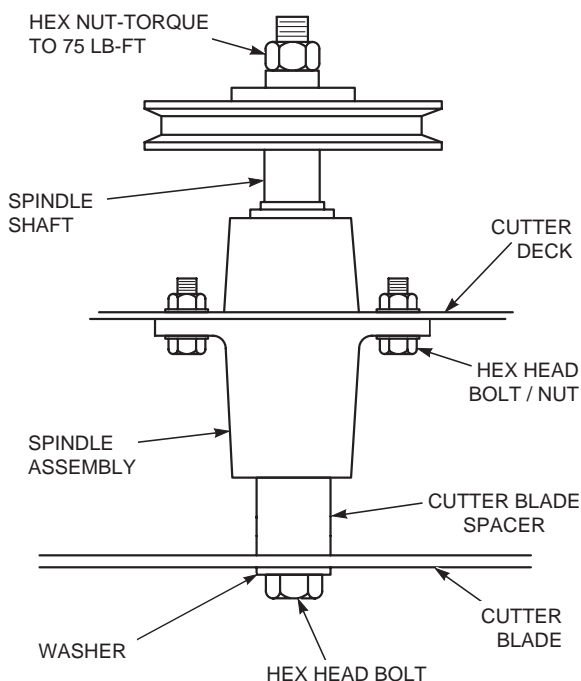

Figure 7-7. Blade Replacement
3. Secure the cutter blades to prevent them from rotating, (use the optional Blade Buddy tool, P/N 9212, to assist in securing the cutter blades), remove the nut from the blade attaching bolt. Remove the cutter blade, bolt and spacer from the spindle shaft. See Figure 7-7.
6. Install the hex nut to the blade bolt at the top of the cutter spindle. Secure the blades from rotating and torque to 75 ft/lbs. See Figure 7-7.